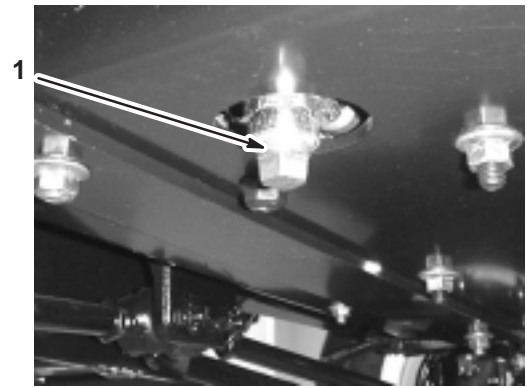

Figure 29
5. Remove the drain plug (Fig. 29).